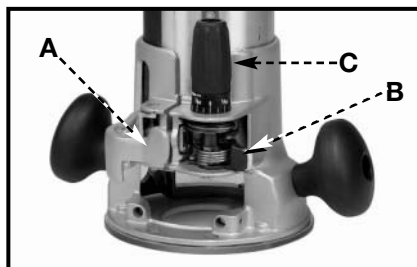

Fig. 6
1. Open the clamp (A) Fig. 6.
2. Pull lever (B) and set router on work so bit just touches it and the router is flat and level.
3. While holding the lever (B), turn depth knob (C) until zero lines up with zero mark on router base.
4. Release lever (B), making sure the zero stays lined up with mark.
5. Close clamp (A).
6. Turn knob (C) clockwise to desired depth of cut.